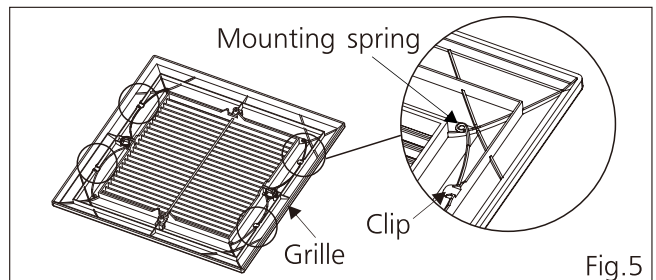

Fig.5
- Take out the mounting springs of grille from clips. (Fig.5)